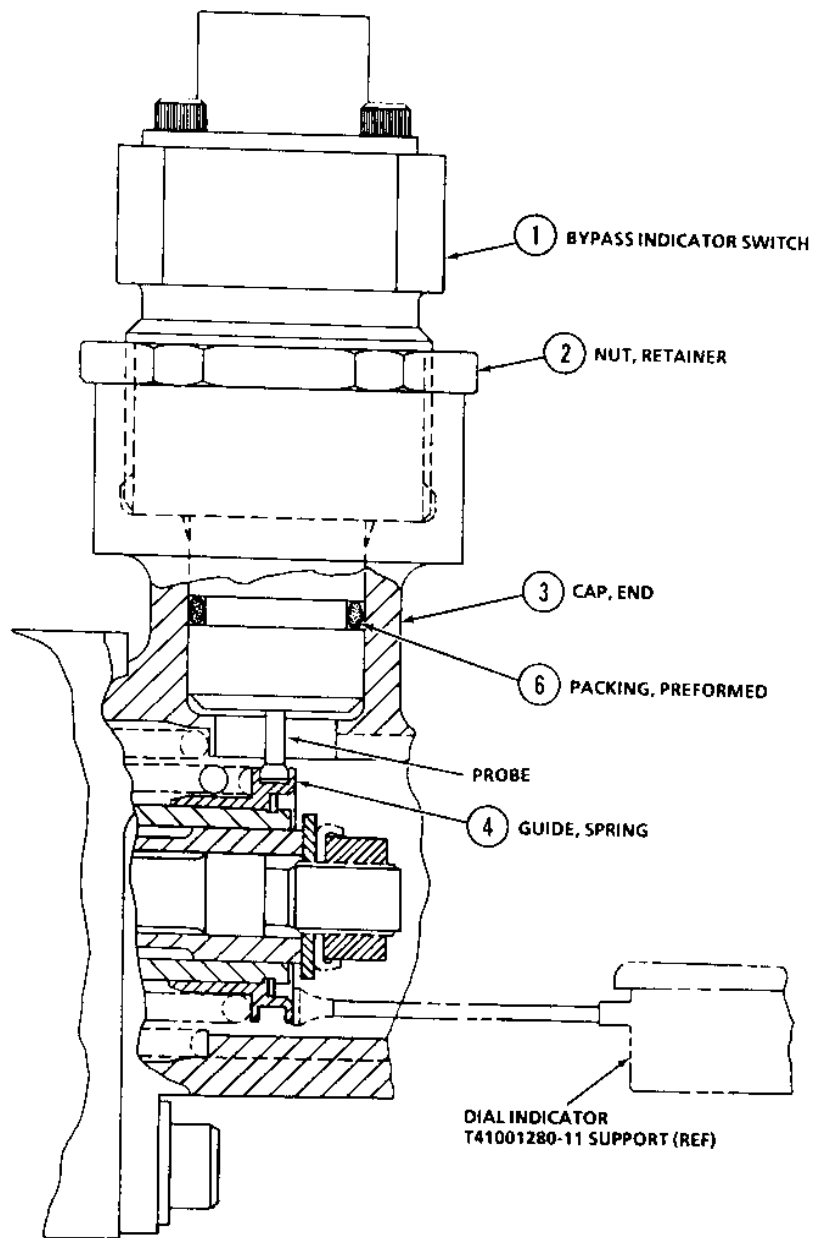
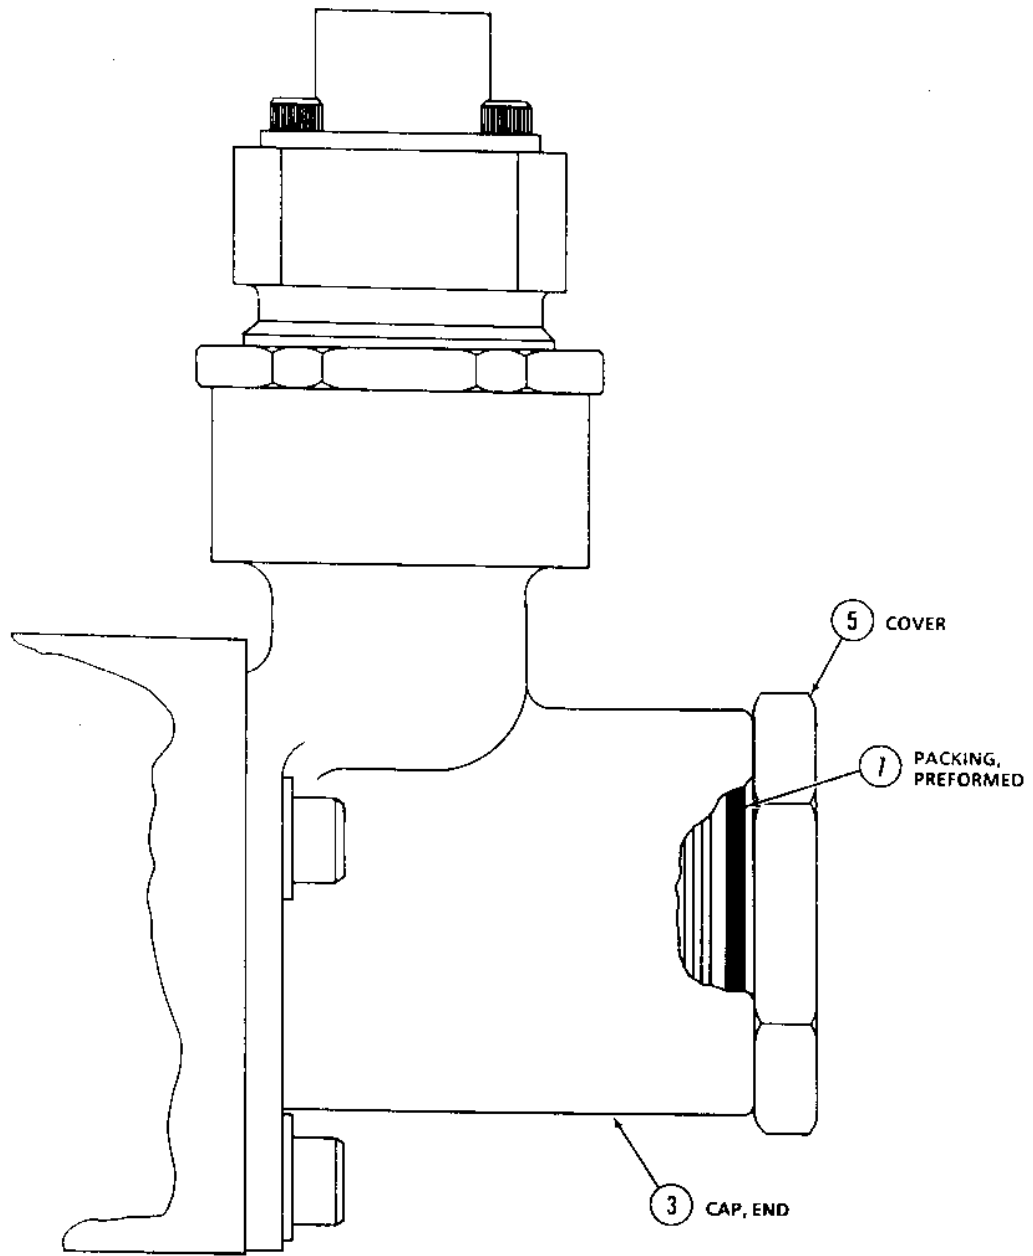

FIGURE 1
FIGURE 2
Removal - (Ref. Fig. 1 AND Fig. 2)
Replace - (Ref. Fig. 1 and Fig. 2)
Adjust - (Ref. Fig. 1)
1. Mount a dial indicator (Ref: T41001280-11 indicator support) so that the probe is indicating against the end of the spring guide (4). See Figure 1. The indicator shall have sufficient capacity to measure $\pm .050$ inch minimum.
2. Attach a continuity measuring device across the indicator switch (1) connector pins A & D so that the switching action can be monitored.
Final Assy - (Ref. Fig. 2)